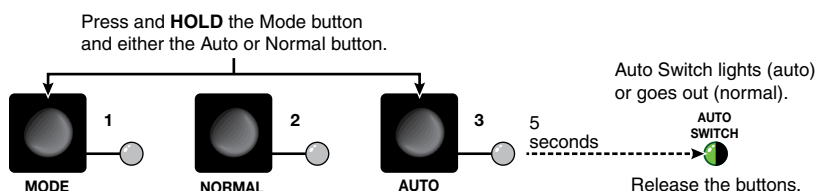

Figure 11. Selecting a Mode
1. Press and **hold** the **Mode** (Input 1) button and the button for the desired mode for approximately 5 seconds (see figure 11):